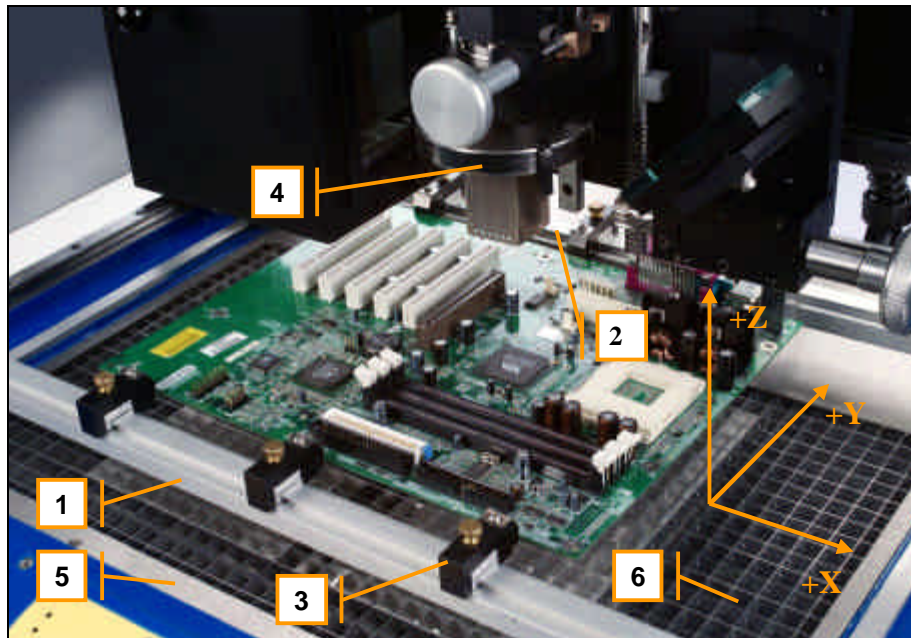

Figure 7: Board Fixture
1. Load the board with the part to be removed in the board fixture. (Fig. 7)
1. Load PCB Onto Adjustable Board Fixture (Fig. 7)